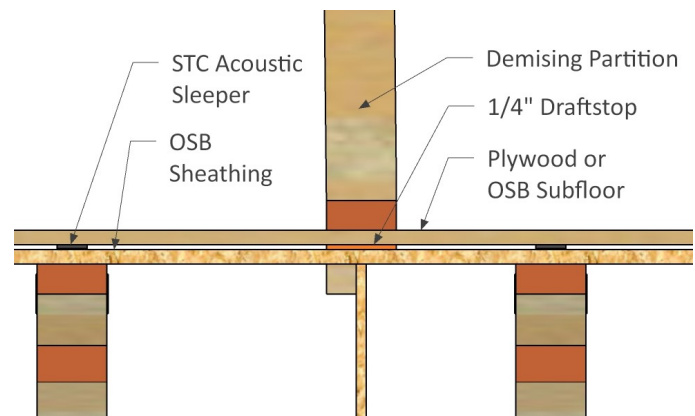

Figure 6: Typical section at draftstop
- Fig. 6: Typical section detail for non-load-bearing demising partitions parallel to structural members where draftstops are required.